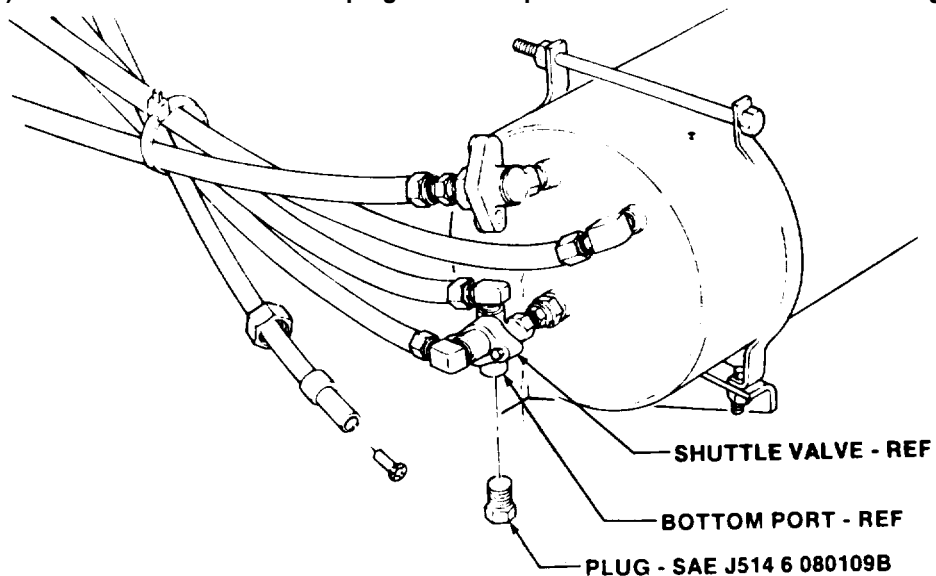

FIGURE 3
(5) Install SAE J514 6 080109B plug in bottom port of shuttle valve as shown in figure 3.